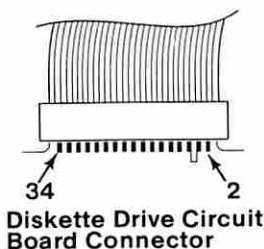

Figure 19. Voltage Check
- Power on the system and monitor the voltage at pin 30 on each diskette drive circuit board during the POST (Figure 19).